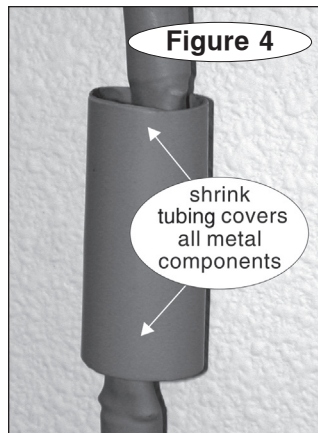

Figure 4
8. Slide the shrink tubing over the connection as shown in Figure 4. Be certain no metal is exposed. Seal the shrink tubing with a heat gun or similar device.